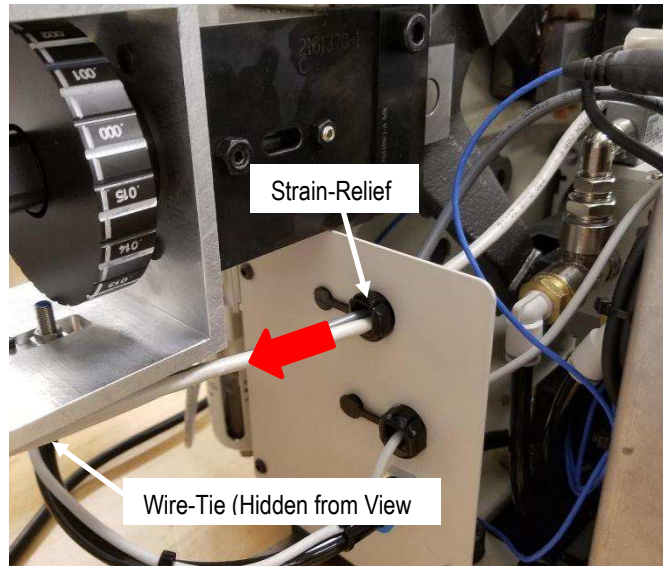

Figure 6
- Carefully pull additional CAN and Power/Proximity Switch cabling through the strain-relief and wire-tie (see Figure 6) to eliminate any tension on the new connections. **Note: Wire-tie may be removed, if necessary.**